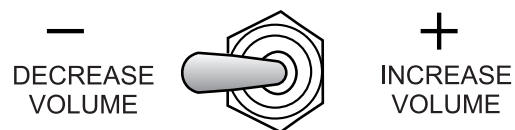

Figure 28. Volume Control Switch
2. Holding the **volume control switch** (Figure 28) to the right will increase pumping volume to approximately 10 strokes per minute. Holding the volume control switch to the left will decrease pumping volume.
6. Rotate the Volume Control Knob (Figure 28) to the right to increase the volume to 25–30 strokes per minute. Place pump control switch in the center “OFF” position. Slowly discharge the concrete from the ready-mix truck into the hopper and completely fill it.